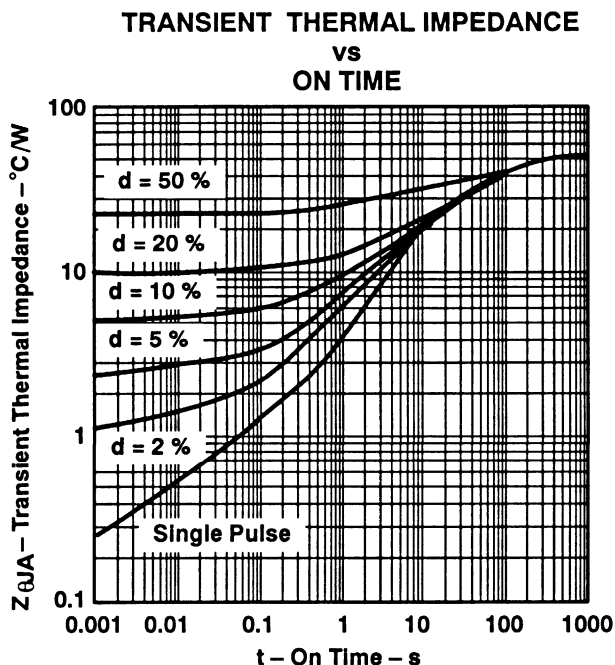

Figure 3. Transient Thermal Impedance vs On Time
- $Z_{\theta JA}$ = Transient thermal impedance See Figure 3
within the maximum ratings, even in the presence of large current pulses. For these applications, Figure 3 may be used to determine the peak junction temperature.
The single-pulse curve in Figure 3 represents measured data. The curves for various pulse durations are based on the following equation: